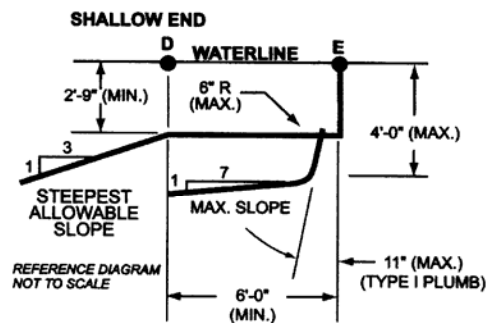

Figure 5- Shallow end depths
5.6.1 The slope of the floor from the shallow end wall towards the deep area shall not exceed 1 foot in 7 feet (30 cm: 213 cm) to the point of the first slope change as shown in figure 5.
5.7 Shallow end water depths. Water depth in the shallow area shall be a minimum of 2 feet 9 inches (83.8 cm) except for those locations specified in 6.3 "Shallow End Detail for Beach and Sloping Entries." The water depth at the shallowest point shall not exceed four feet (121.9 cm) as shown in figure 5.